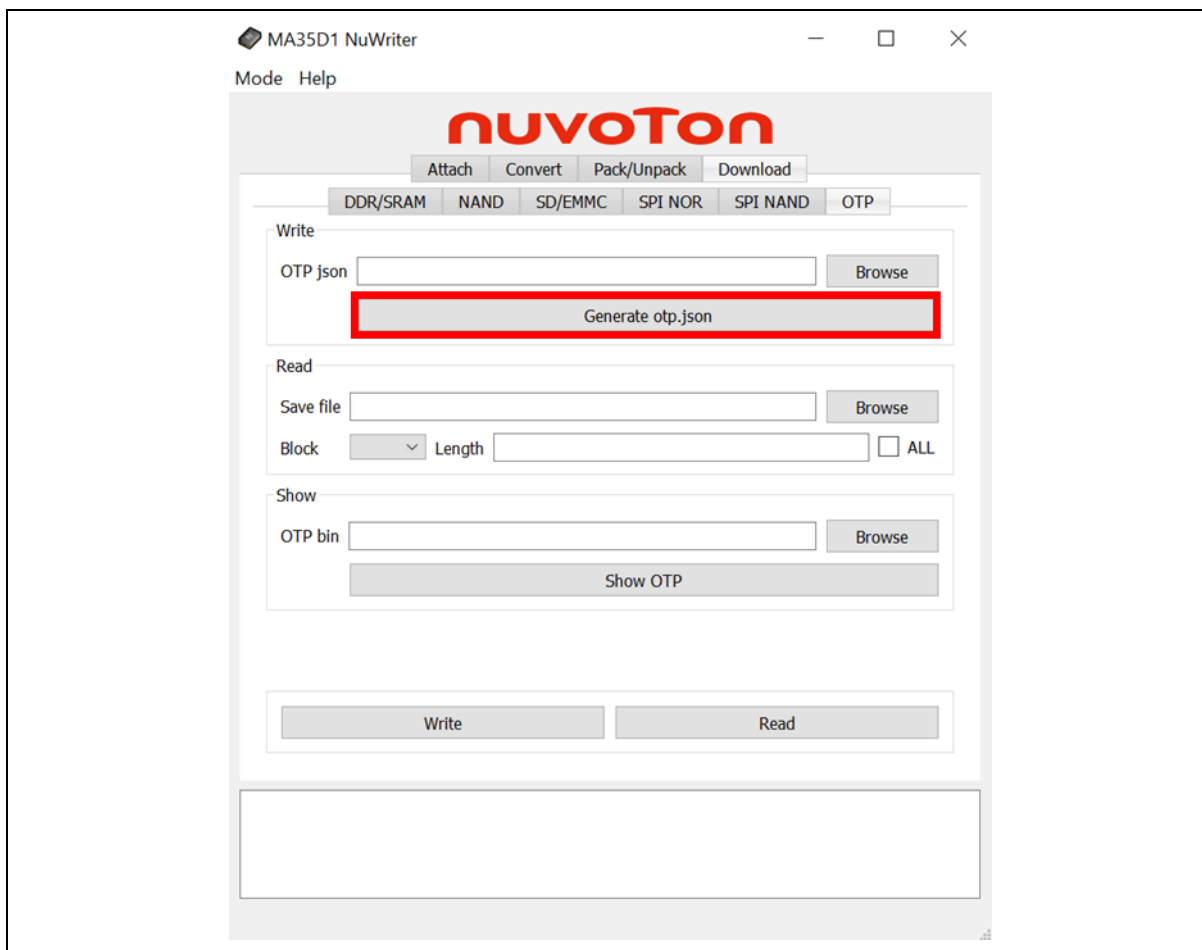

Figure 7-13 Generate otp.json
1. Click “Generate otp.json”. Figure 7-13